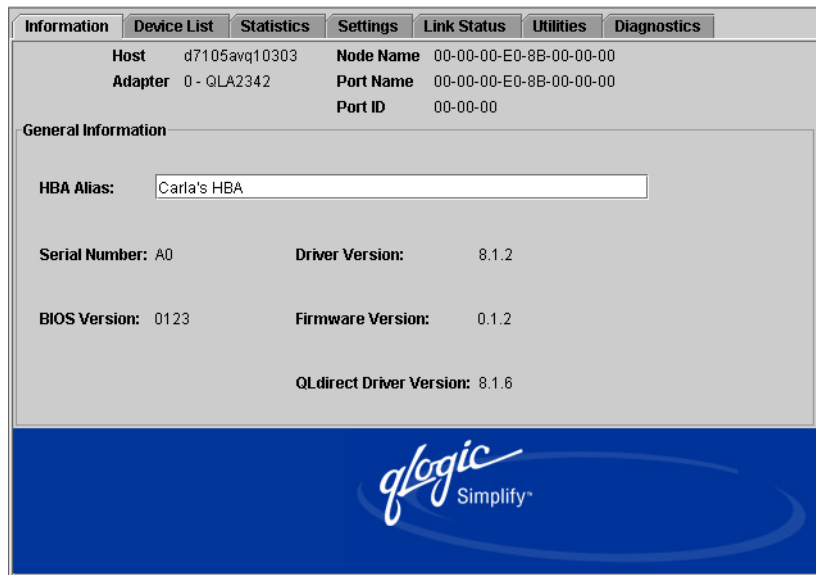

Figure 9-8. Adapter Information Tabbed Page
2. Select the **Information** tab. The **Adapter Information** tabbed page displays (see figure 9-8).